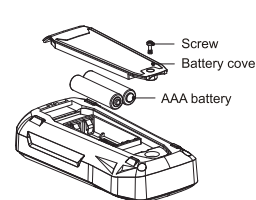
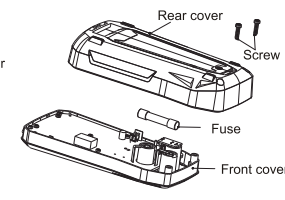

Figure 4a
Figure 4b
11. Maintenance and repair (Figure 4a)
- Replace batteries or fuse (Figure 4a and Figure 4b). The meter uses 2 pieces of AAA 1.5 V batteries, please install or replace batteries according to the sequence below: